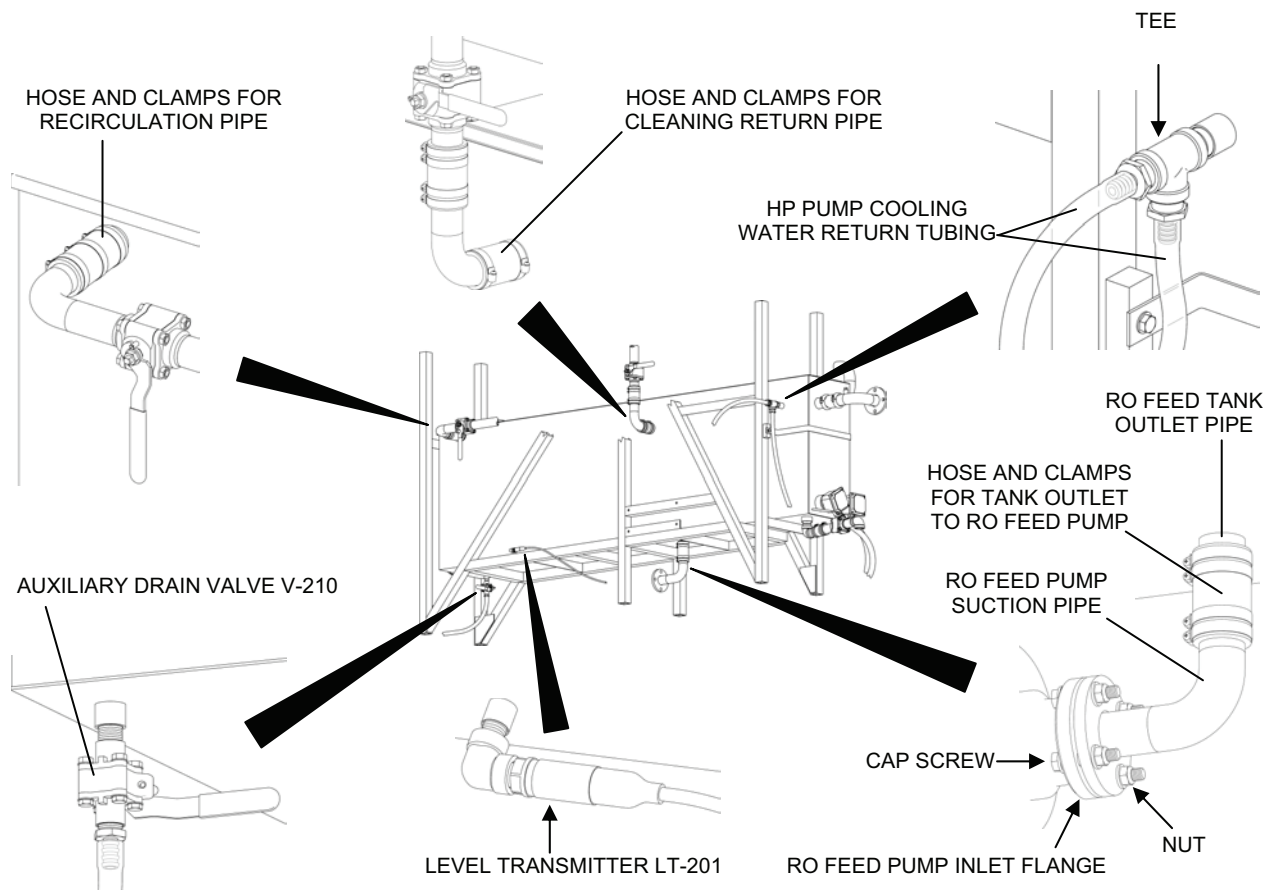

Figure 2. RO Feed Tank Front and Bottom Connections Removal.
2. Remove the following connections from the front and bottom of the RO feed tank (see Figure 2):